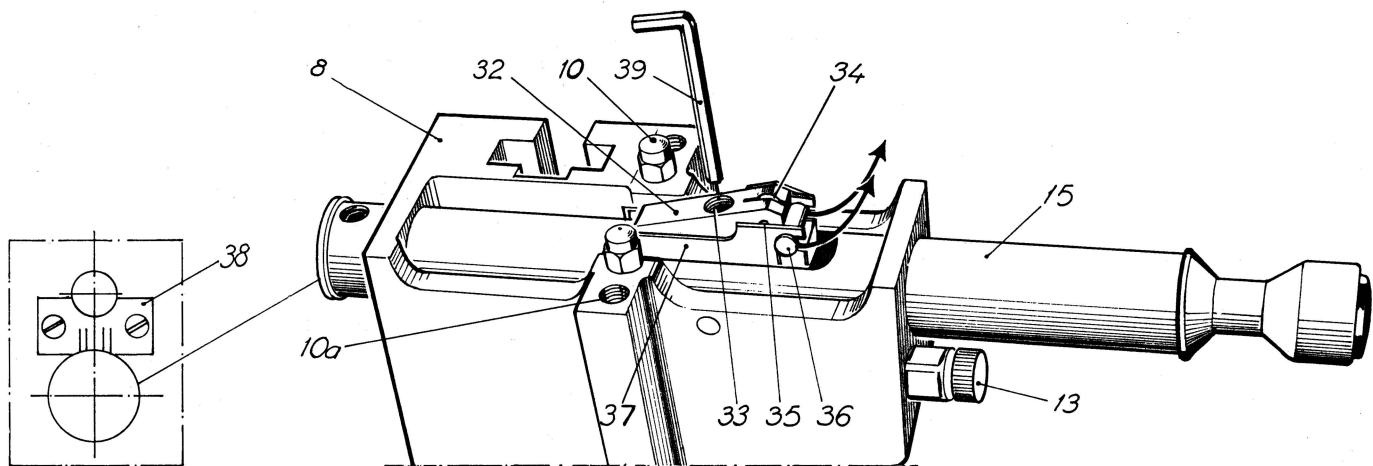

Fig. 8
(see fig. 8)
1. Remove clamping head (8) see step 1 in III. A.
2. Pull out scoring shaft (15) about 40 mm.
3. Hold clamping head as shown in fig. 8 and press down holder (32) of cutter wheel with thumb and remove locking pin (36). (If it is difficult to press down the holder (32) loosen screw (33) by turning it counter-clockwise).
4. Place clamping head (8) on table and push out cutter wheel's shaft (35) with e.g., a paper clip and remove wheel (34).
6. Replace pin (36).
7. Replace clamping head (8), see step 3 in III. A.
|  |                            | 32. Cutter wheel holder (see fig. 8).                  |